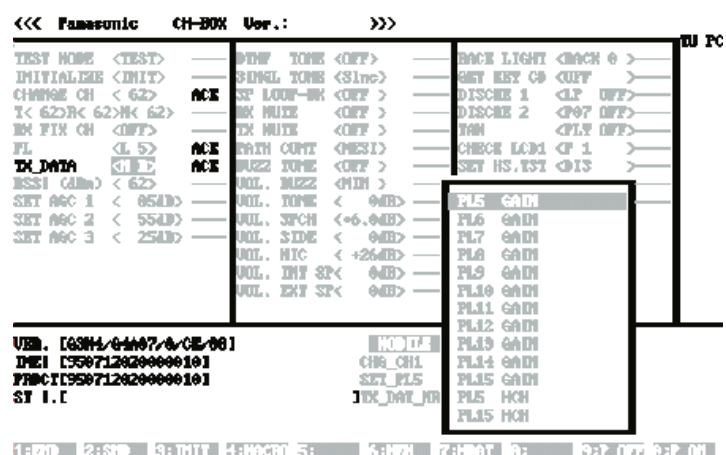

Figure 13: Power level selection 1
- (Figure 13) At the CHBOX press CTRL and F7 simultaneously.